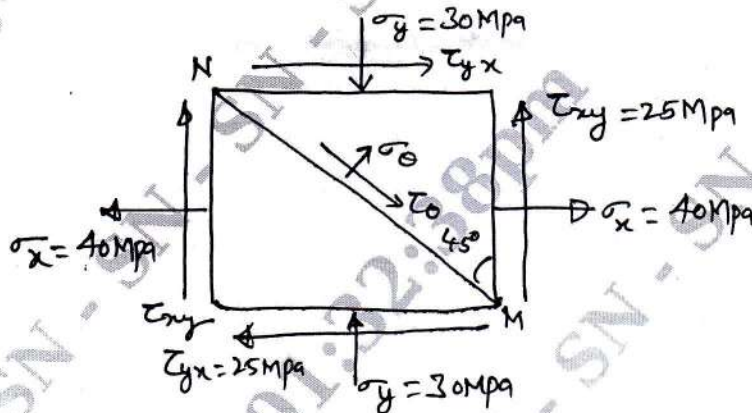

Fig.Q1(c)
- c. A point in a structural member subjected to a plane stress as shown in Fig.Q1(c). Determine the following :